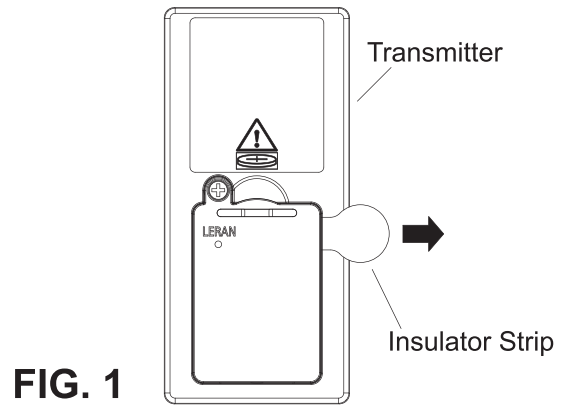

FIG. 1
Step 2. Carefully pull the insulator strip out of the transmitter to activate the preinstalled CR2032 3V button/coin cell battery. Discard the insulator strip. (Fig. 1)